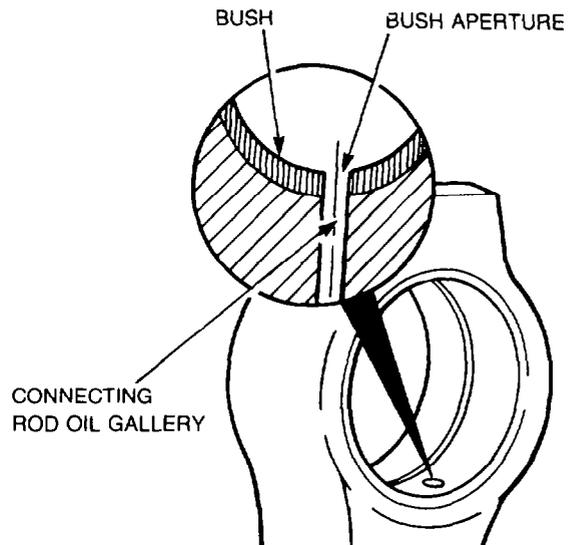

Figure 24 — Connecting Rod Bush — Alignment
- ab. Check the gudgeon pin bush for scoring, scuffing, scratches or misalignment of the connecting rod oil passage and the gudgeon pin bush aperture (see Fig. 24).